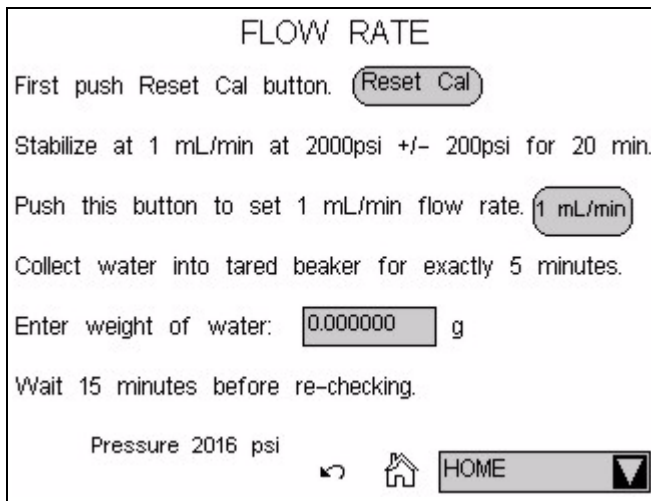

Figure 5-5. Flow Rate Page
1. Open the ICS-2000 Wellness Panel in Chromeleon (see Section 5.1.1), or open the ICS-2000 touch screen **FLOW RATE** page (see Figure 5-5).